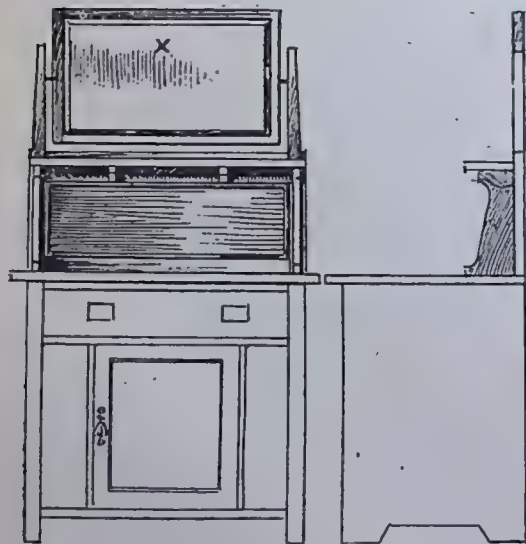

FIG. 1.—CHILD'S DRESSING TABLE TOP (No. 377.)
article. In any case we think the governing factor for height of back should be the height of the user's eye (X). A wood panel and shelf are shown as required, but the former can be reduced if a larger mirror is preferred than Fig. 1, although that shown should be ample for a full head and shoulder view, if sloped forward a trifle from the bottom. As sketched sight size is 12 ins. by 21 ins., bevelled 1 in., framed in 1½ in. by ¾ in. stiles and rails. Patent movements for swinging can be obtained from Messrs. Oakden's,